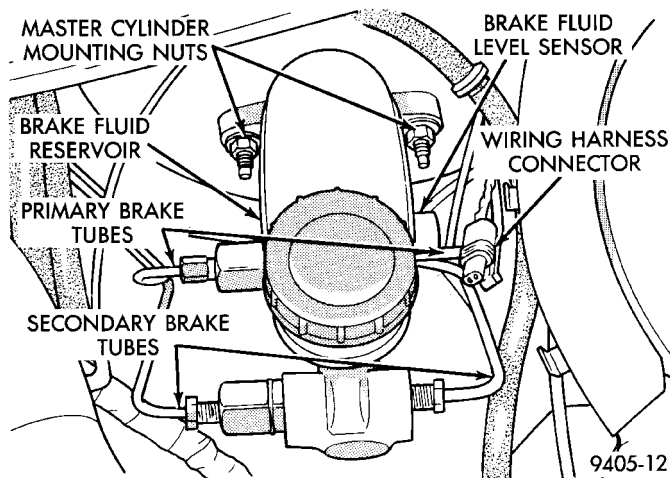
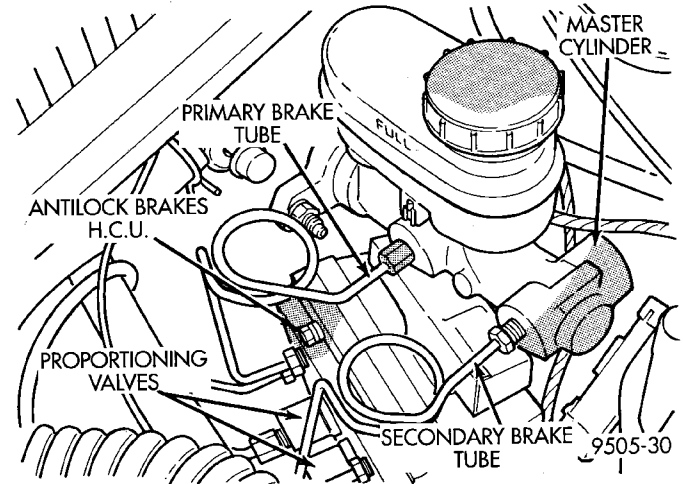

Fig. 113 Primary And Secondary Brake Tubes W/O ABS Brakes
Fig. 114 Primary And Secondary Brake Tubes With ABS Brakes
(3) Disconnect the primary and secondary brake tubes from the master cylinder (Fig. 113) and (Fig. 114). Install plugs at all open brake tube outlets on master cylinder assembly.
(11) Connect brake tubes to master cylinder primary and secondary ports (Fig. 113) and (Fig. 114). Torque all tube nuts to 17 N·m (145 in. lbs.) torque.
(12) Reconnect wiring connector to fluid level sensor.
(13) Adjust stop lamp switch as necessary.
(14) Bleed brake system.